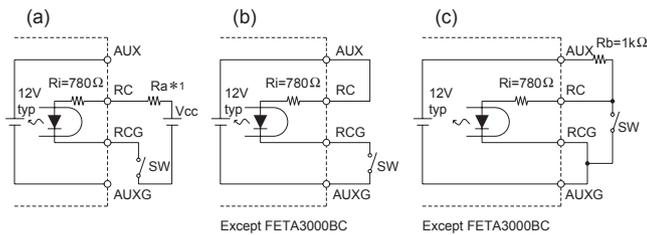

Fig.1.3 Examples of connecting remote ON/OFF circuit
- You can operate the remote ON/OFF function by sending signals to CN1/CN2 (FETA3000BC : CN3). Please see Table 1.2 and Table 1.3 for specifications and Fig.1.3 for connecting examples.
- ① The output stops when a current flows to RC.
- ② The current flown to RC is a 20mA max.
- ③ When the output voltage is turned off through the remote ON/OFF circuit, the built-in fan slows down.
- ④ If the output voltage is turned off through the remote ON/OFF circuit, the WRN signals and the PG signals keep "Low".
- ⑤ Description in this section is based on the assumption that you will use one unit alone. If you are planning to use the units in parallel operation or use multiple units for a single system, please check necessary voltage and current values.
Table 1.3 Specifications of remote ON/OFF (Case of Fig.1.3)